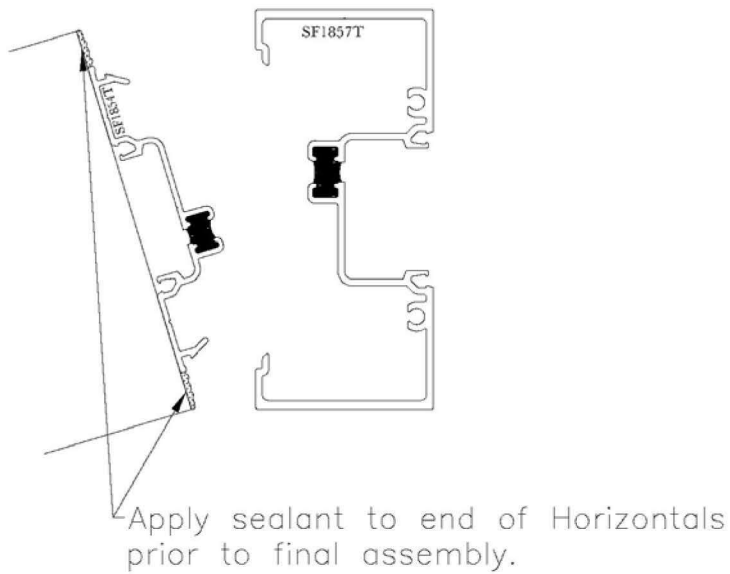

**Fig. 8**
4. Install remainder of panels, one by one, snapping them together. See Figure 8.